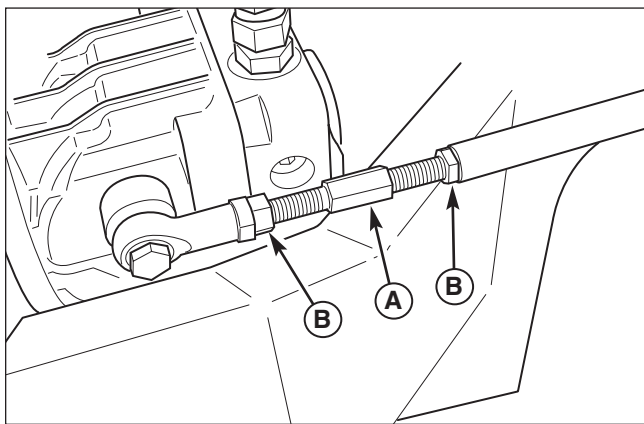

Figure 35. Neutral Adjustment (Left-hand side shown)
2. Loosen the jam nuts (B, Figure 35) and turn the adjustment linkage (A) to adjust. If the machine creeps forward, turn the linkage CLOCKWISE (while standing at the rear of the machine, facing forward), if the machine creeps backward, turn the linkage COUNTER-CLOCKWISE.
3. Lock the jam nuts (B) when neutral is achieved.
1. Depress the deck lift foot pedal (B, Figure 35) until it locks into the 6" (15,2 cm) position.
3. Depress the deck lift foot pedal then push the lock lever (C) towards the right to release the lock.